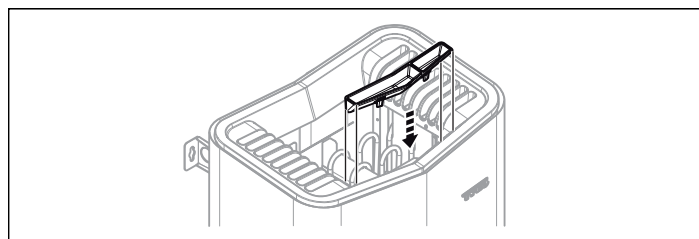

Figure 9: Fitting the fragrance holder/air humidifier
7. Attach the herb bowl/air humidifier (see Figure 9).